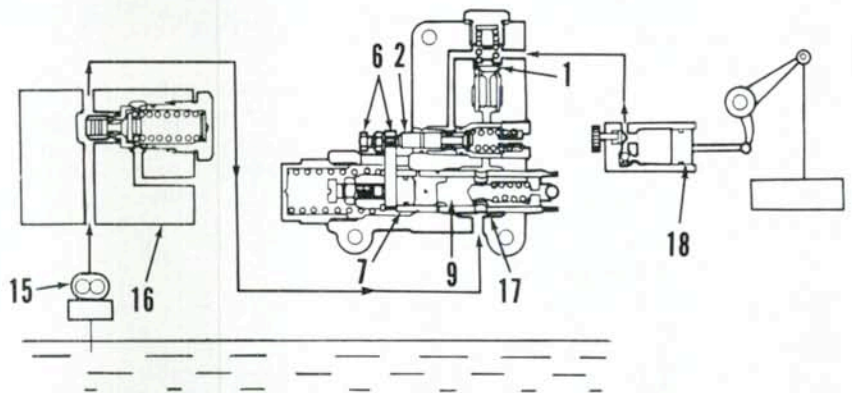

Fig. 290—Cross section of control valve assembly used on models with draft control showing oil flow in "neutral" position.
In “neutral” position (Fig. 290), the control valve spool (7) is centered in valve body. Pump oil flow moves the control valve spool plunger (9), which aligns passages (17) in control valve spool and plunger and allows pump oil flow to return to reservoir. Oil is trapped in the lift cylinder by the check valve (1) and lowering valve spool (2), holding the lift arms in a fixed position.